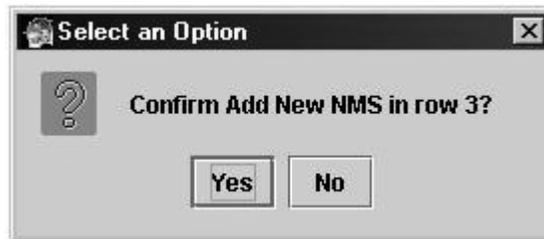

Figure 5-19: Confirm New NMS Entry Dialog
6. Click **ADD**. The Select an Option dialog displays. See Figure 5-19.